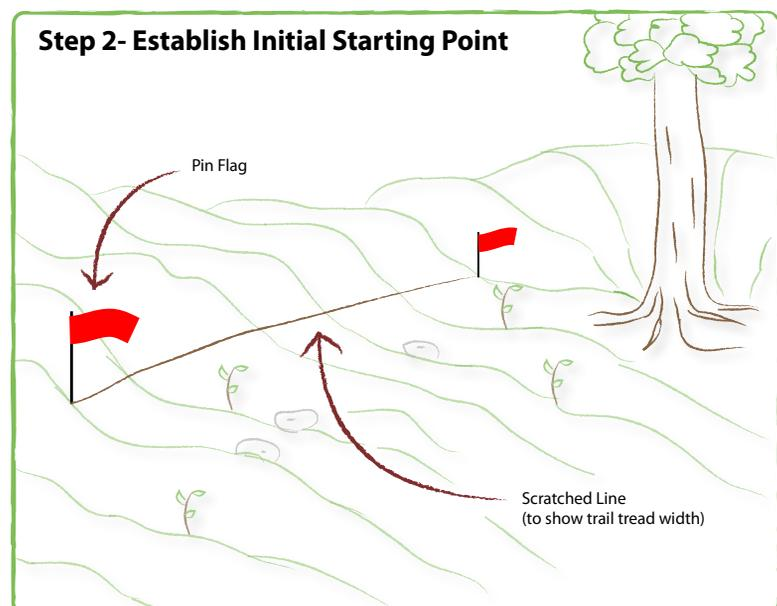

Figure 9: Inside edge method uses marking on the spot where the tread will meet the backslope.
1. **Inside Edge Method (Figure 9)** – The inside edge, where the tread meets the backslope, is marked with a line of pin flags or stakes.